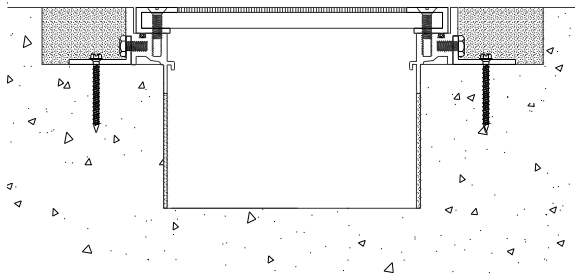

Figure 9
**STEP 14.** Install the tile into the cover plate recess at the time of installation of the finished floor (see Figure 9). Install the tile in accordance with the tile and adhesive manufacturers' instructions.